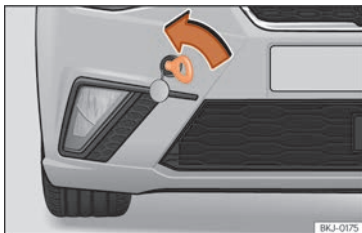

Fig. 100 Right side of the front bumper: towline anchorage screwed in.
- Bolt the anchorage to its limit to the *left*, in the direction of the arrow » **Fig. 100**.